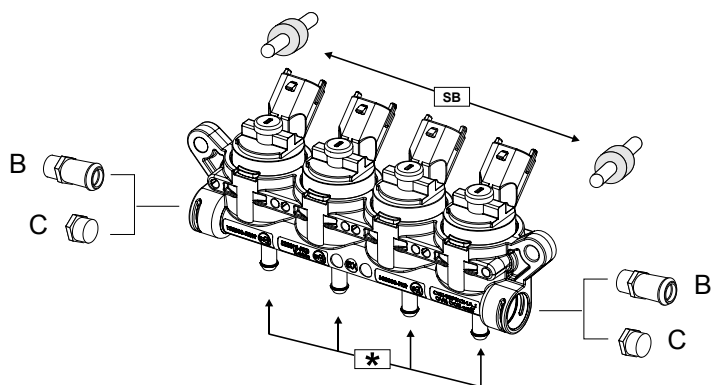

fig.i1
- The gas inlet joint “B” and the plug “C” can be fitted to the injector unit in whatever manner best suits the pipe work layout (fig i1).
- The injector unit must always be firmly mounted to a stable vehicle component using the “silent blocks” (reference “SB” fig.i1), the nuts and bolts supplied and suitably shaped brackets. The mounting brackets should be shaped to fit the chosen mounting points and the injector unit should never be installed near exhaust manifolds or the catalyser.